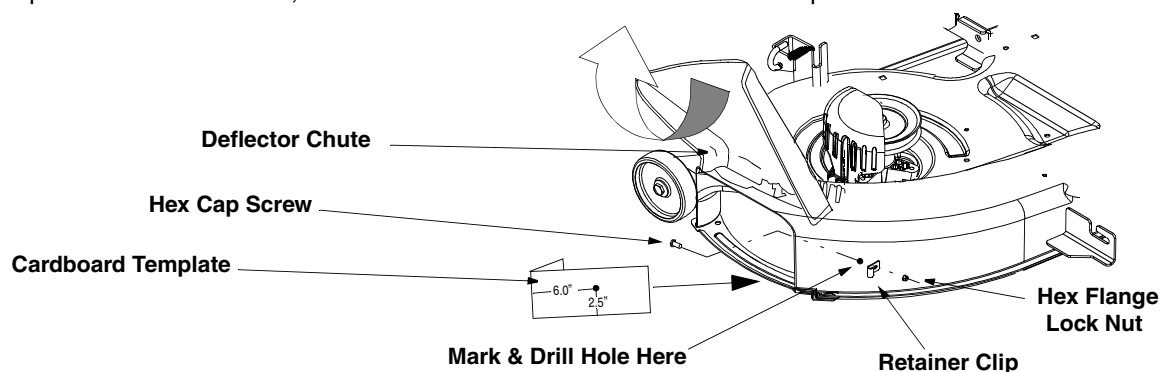

Figure 1
- Crease the template included in this kit and place it over the front of the cutting deck near the discharge area as illustrated in Figure 1. Mark the hole location on the cutting deck with a center punch.
- Attach the retainer hook bracket to the cutting deck using the hex cap screw and hex flange lock nut included in this kit. See Figure 1.